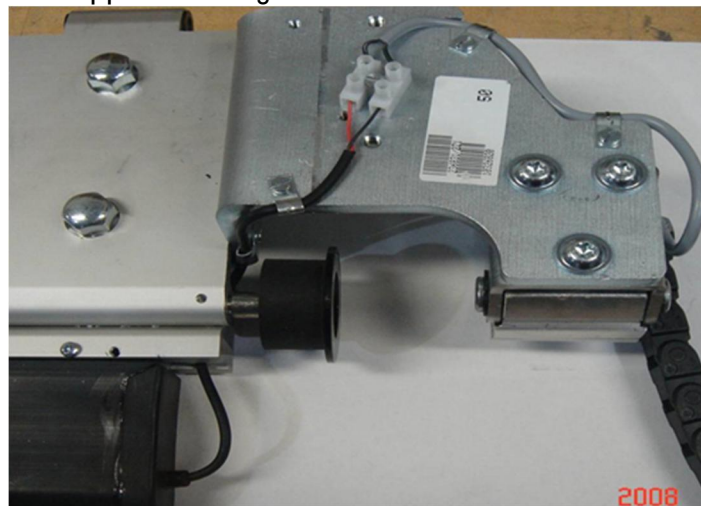

Figure 6
6. Final assembly should appear as in figure 6.